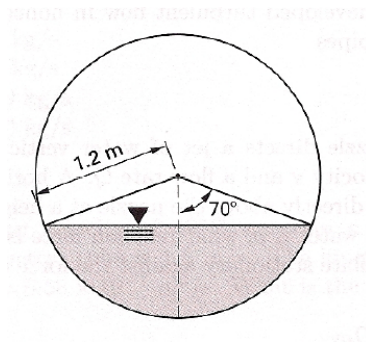

Figure 1: Circular channel flowing partially full.
5. A pipe with a diameter of 2.4 meters is depicted in Figure 1. The pipe is flowing partially full.